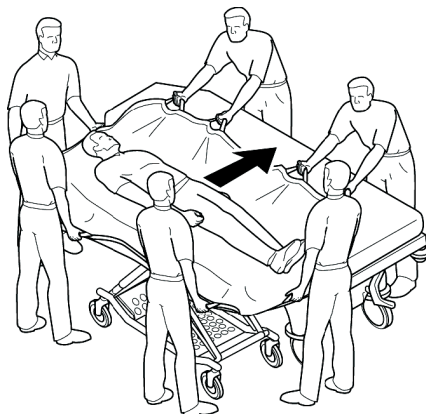

Figure 4
5. Use the Transfer Flat to move the patient across from one surface to the other as shown in Figure 4.